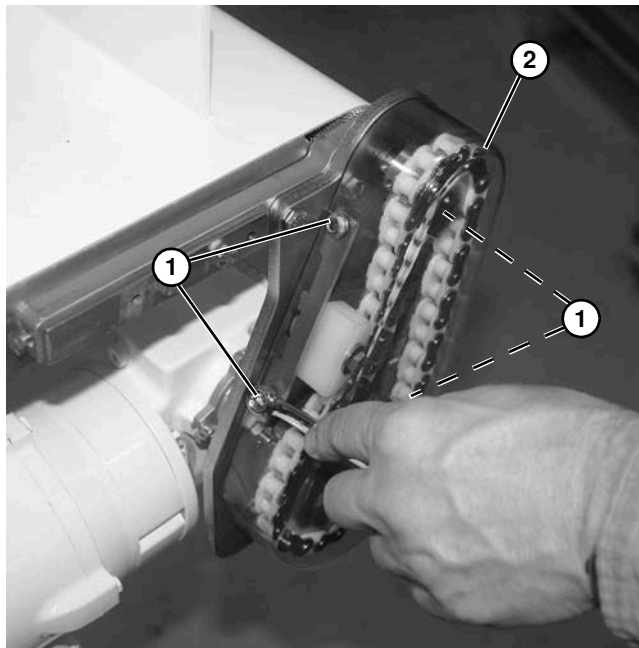

Figure 48
1. Loosen four screws (Figure 48, item 1) securing cover (Figure 48, item 2).